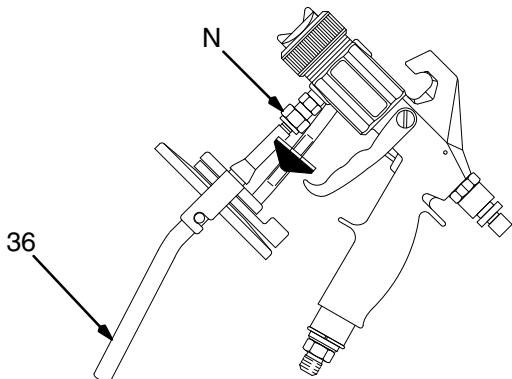

Fig. 11
For prolonged overhead spraying, loosen the fluid tube nut (N) and turn the entire cup assembly one-half turn. See Fig. 11. This will position the fluid tube (36) in the back side of the cup so the entire contents will be sprayed.